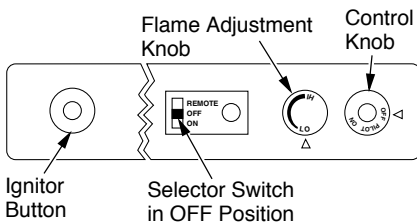

Figure 32 - Control Knob and Ignitor Button Location
- Press in and turn control knob clockwise  to the OFF position (see Figure 32).
- Wait five (5) minutes to clear out any gas. Then smell for gas, including near the floor. If you smell gas, STOP! Follow "B" in the safety information, page 19. If you don't smell gas, go to the next step.
- Press in and turn control knob counterclockwise  to the PILOT position. Press in control knob for five (5) seconds (see Figure 32).